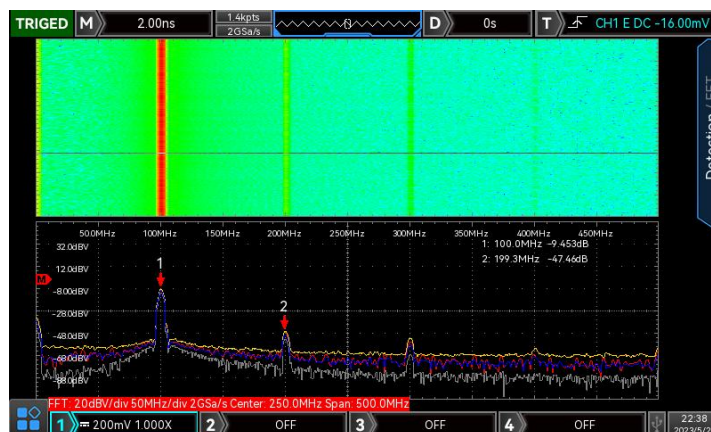

Figure 15-3
- e. Waterfall curve 2: Spectrum and waterfall curve split to two window to display. Waterfall curve shows the time changing of dB value in spectrum. It has “record” function. Waterfall curve can only select when enhance FFT is opened. The maximum record 200 spectrum which corresponds to waterfall curve. As shown in Figure 15-3.